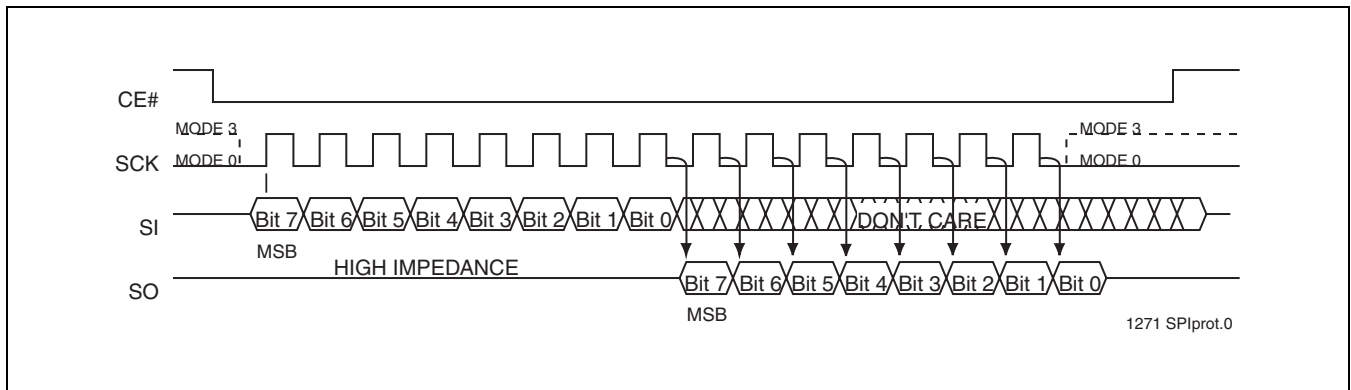

FIGURE 3: SPI Protocol
The PCT25VF016B supports both Mode 0 (0,0) and Mode 3 (1,1) of SPI bus operations. The difference between the two modes, as shown in Figure 3, is the state of the SCK signal when the bus master is in Stand-by mode and no data is being transferred. The SCK signal is low for Mode 0 and SCK signal is high for Mode 3. For both modes, the Serial Data In (SI) is sampled at the rising edge of the SCK clock signal and the Serial Data Output (SO) is driven after the falling edge of the SCK clock signal.